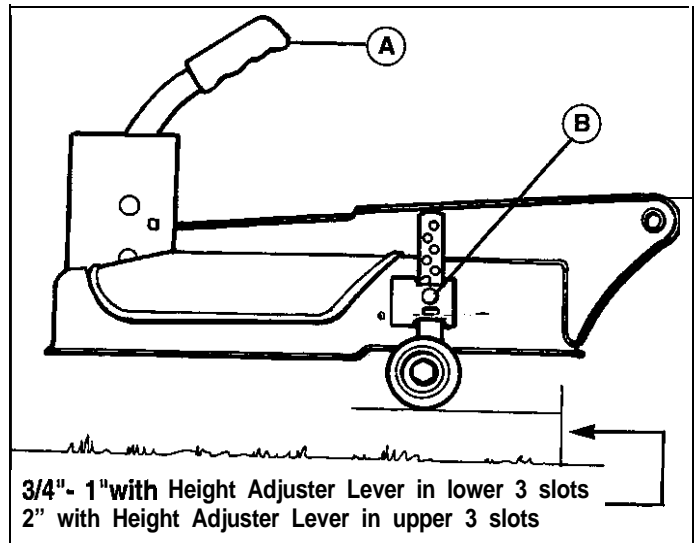

Figure 7. Adjusting Mower Deck Gauge Wheels
1. Set the mower height adjustment lever (A, figure 7) to the desired cutting height.
2. Remove the pin & clip (B, figures 7) from each mower deck front gauge wheel.
3. Adjust the gauge wheels to achieve the appropriate mower deck-to-ground clearance, as shown in figure 7. Reinstall pin & clip to each wheel.